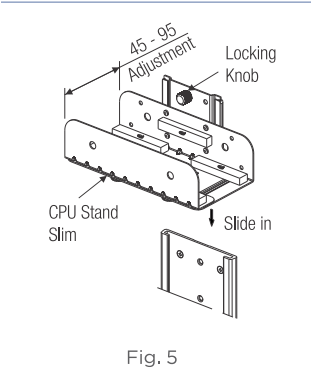

Fig. 5
5. Slide in the CPU stand slim from top of the vertical track as shown in Fig. 5. & tighten the locking knob. (While tightening the locking knob always ensure that the knob enter into the hole of the vertical track.)